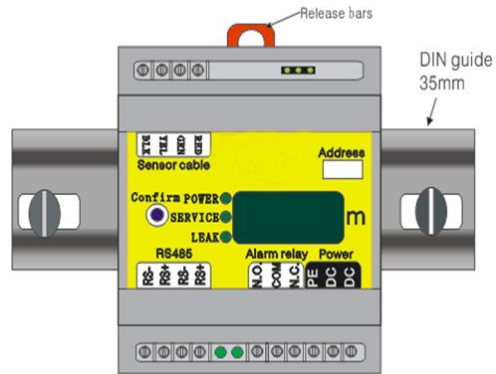

Figure 1: DIN rail mount
- Remove the P-LFP1 from its packaging and snap onto the DIN rail with the release Tab towards the bottom. Shown in Figure 1.